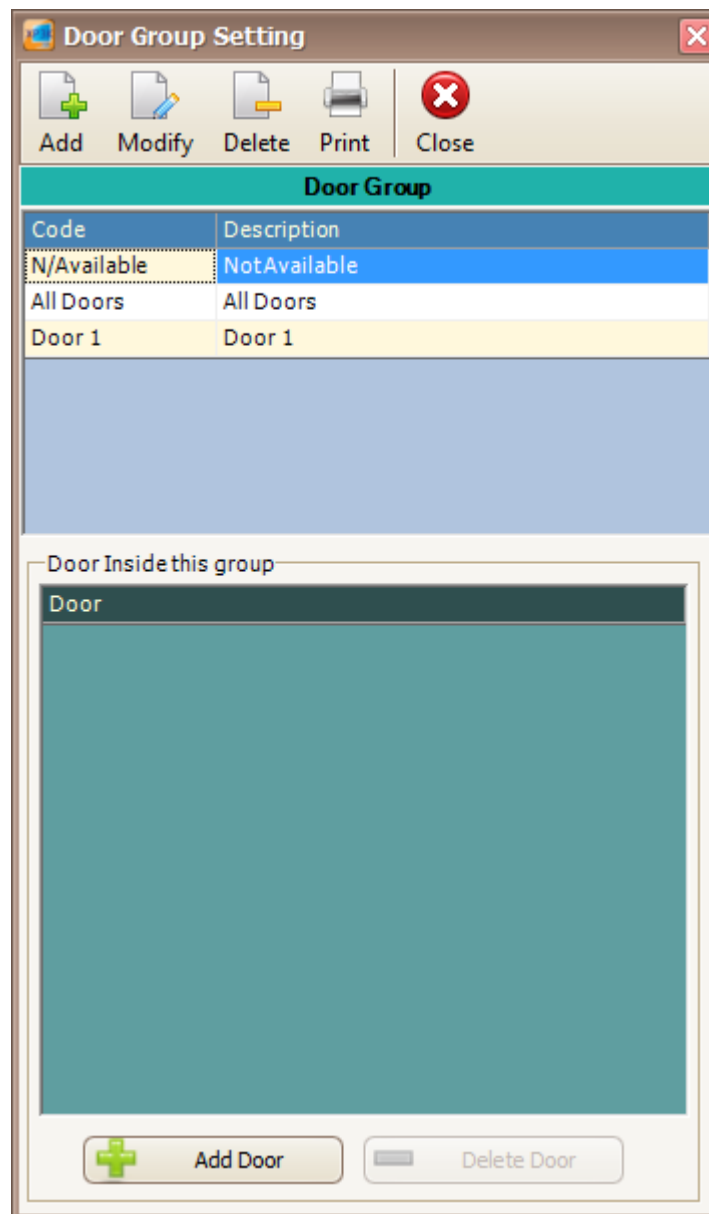

Figure 149 - Door Group Setting
2. The following window will be shown (Refer **Figure 149**).